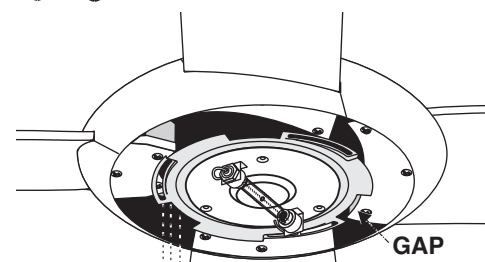

FIG. 10
2. Both Glass Dome and Cover Dome have a mounting ring. Align the dimpled tabs of the plate with the gaps in the fan's mounting plate, lift up into position and rotate clockwise to secure. See Fig. 10.